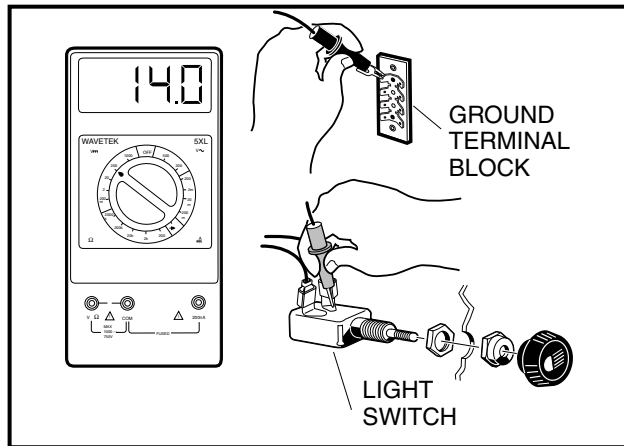

Figure 11b-49 Test Light Switch
2. Disconnect the battery cables as instructed (**Figure 11b-1, Page 11b-5**). See **WARNING "To avoid unintentionally starting..." in General Warning, Section 1, Page 1-2**.
4. Using a multimeter set on 20 volts DC, place alligator clips on the multimeter probes. Connect the black (–) probe to the terminal block under the front body (**Figure 11b-49, Page 11b-39**).